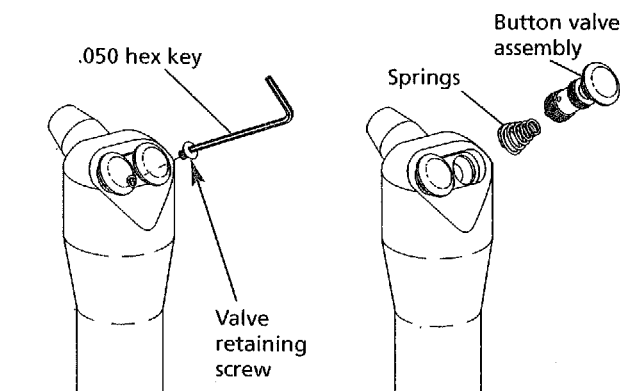

Figure 60. Remove the button valves.
1. Using a .050 hex key, loosen the valve retaining screw (see Figure 60).